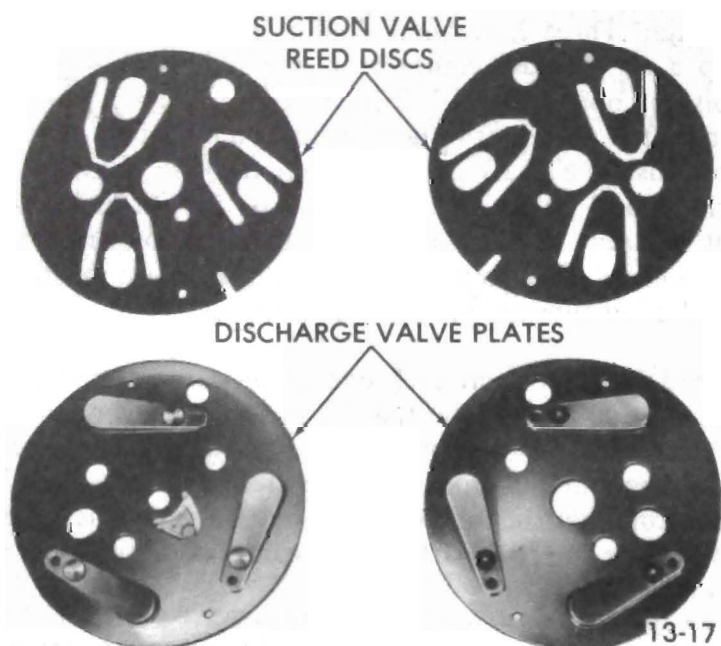

Figure 13-2 Compressor Suction Valve Reed Discs and Discharge Valve Plates
1. Suction Valve Reed Discs and Discharge Valve Plates - The two suction valve reed discs and two discharge valve plates (see Figure 13-2) operate in a similar but opposite manner. The discs are composed